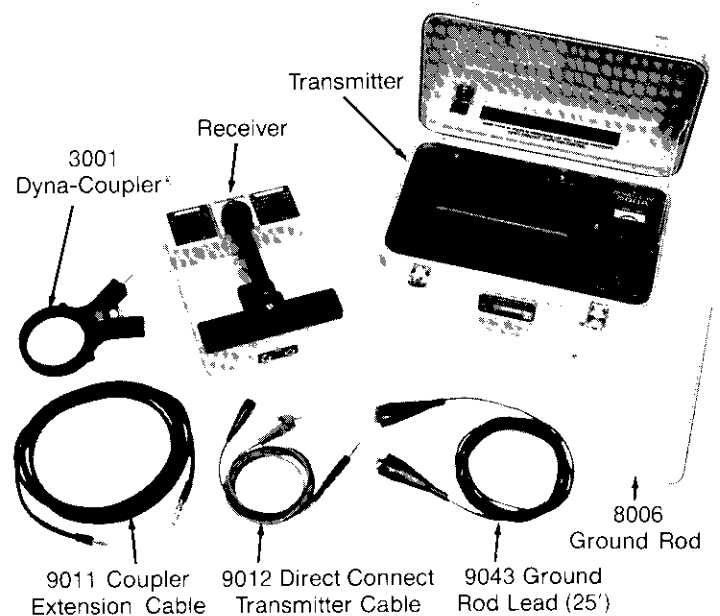

Fig. 2 — The 500A Cable Locator with Accessory Units
- 2.01 TRANSMITTER & RECEIVER: The Cable Locator consists of a transmitter, a receiver, and accessory items (Fig. 2). The transmitter and receiver cases are made of high-density polyethylene for light weight and high durability, and are colored bright yellow for visibility. Both are water-resistant in wet-weather operation. For compact storage and carrying, the receiver and accessories fit into the transmitter case. To preserve battery life, "off" switches are activated on both Transmitter and Receiver when the receiver is fitted into the transmitter case. A stainless steel ground rod is clipped to the set's lid.